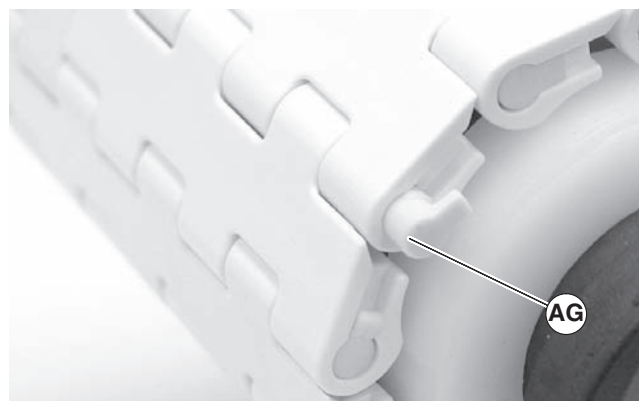

Figure 15
7. Insert rod retaining end caps (Figure 15, item AG) on both sides of belt.